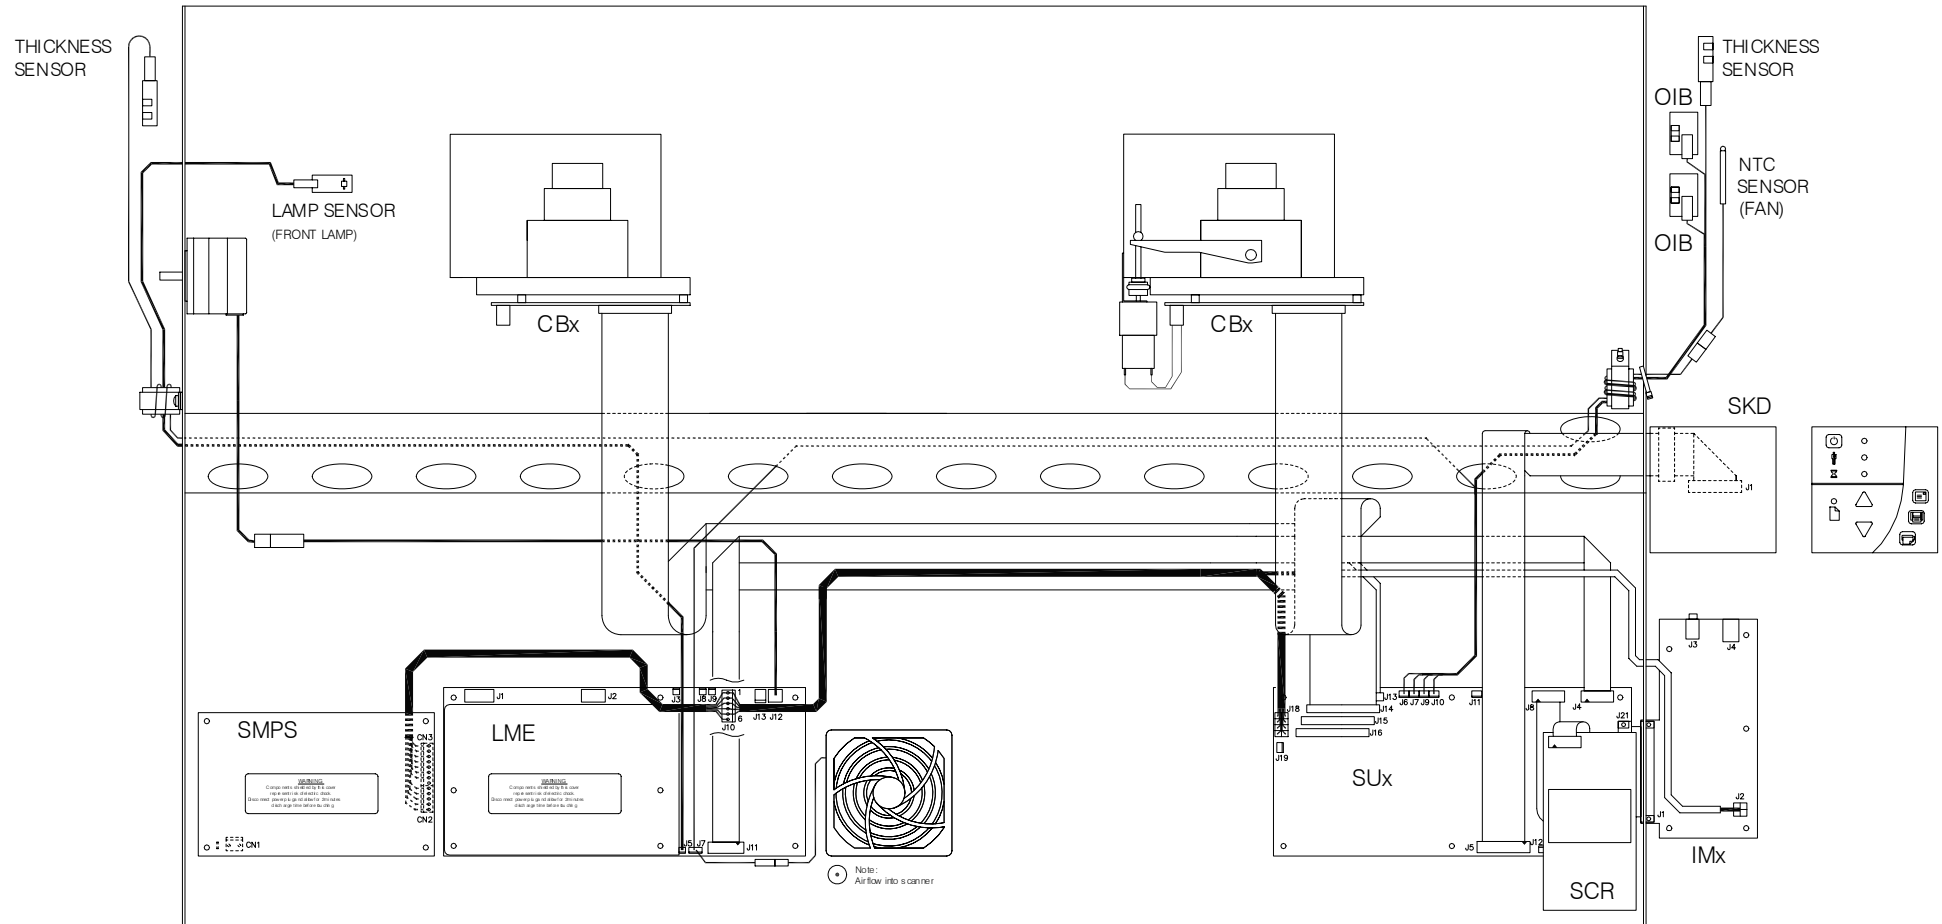

Fig. 11-8 CHAMELEON 36, PREMIER 36, Secondary Wiring
- Fig. 11-8 CHAMELEON 36, PREMIER 36, Secondary Wiring, page 186